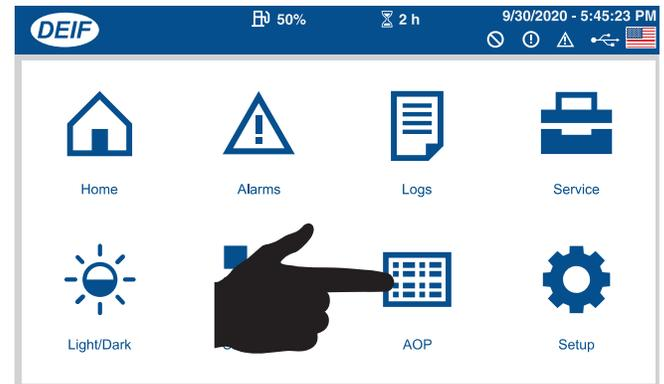
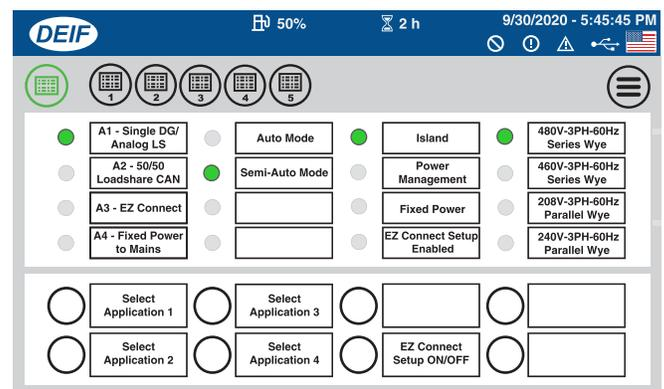

Figure 68. AOP Button (Main Menu Screen)
Figure 69. Operating Status (Main AOP Screen)
18. If desired, press the **AOP** button on screen 1 of 7 (Figure 46) *or* press the **AOP** button on the **Main Menu** screen (Figure 68) to view the operating status of the generator as shown in Figure 69.